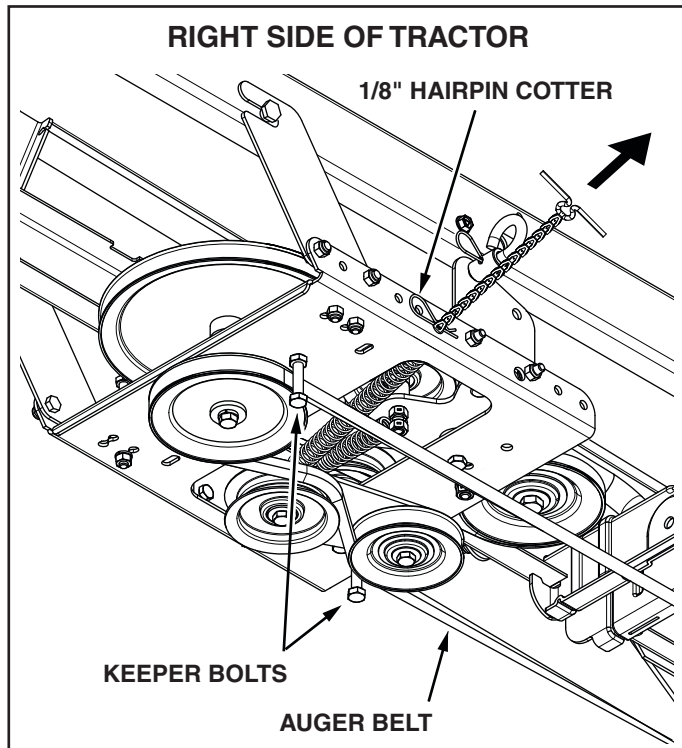

FIGURE 33 VIEWED FROM RIGHT SIDE
NOTE; To prevent the chain from dragging on the ground, loop the end of the chain though the pivot lock pin. Refer to figure 33 on page 17.
STEP 35: (SEE FIGURE 33)